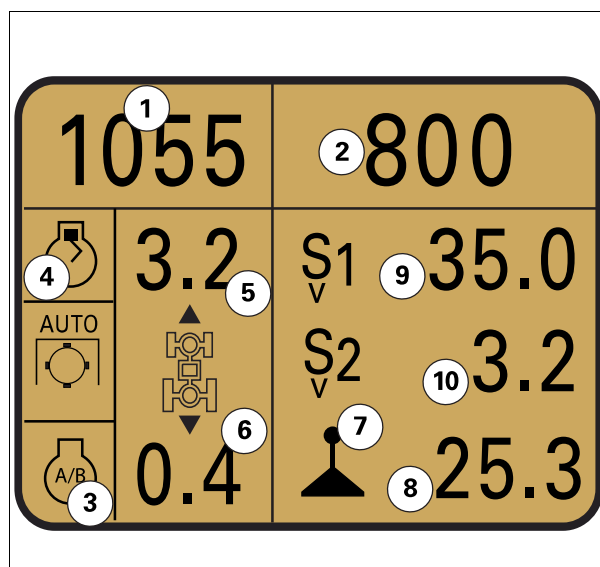

Fig. 7.
- (13) DOT Matrix screen fig. 7